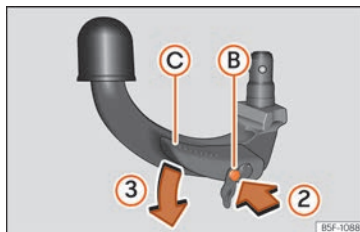

Fig. 253 Step 2.
- Press the release bolt (B) in the direction of arrow ②, and at the same time press lever (C) in the direction of arrow ③ as far as it will go »» Fig. 253.